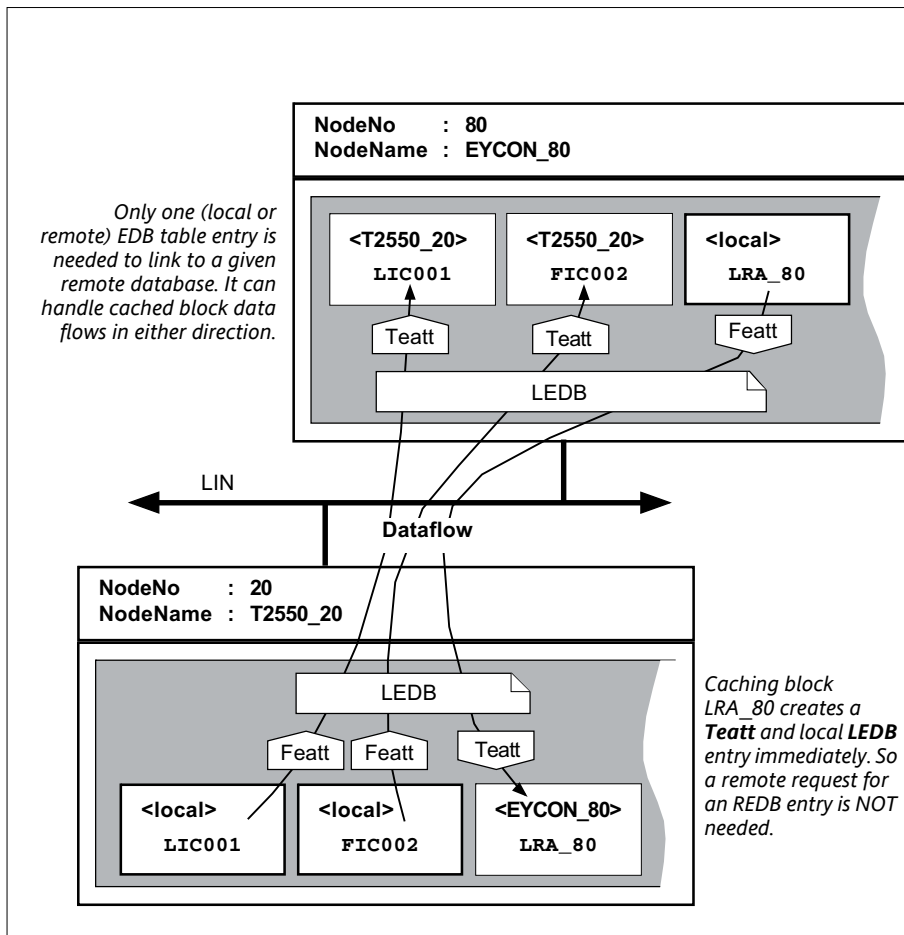

Figure 129 Caching another block in the opposite direction
4. Caching another block in the opposite direction (*Figure 129*)
Figure 129 shows what happens when a block from the EYCON_80 database is cached into the T2550_20 node, i.e. in the opposite direction.